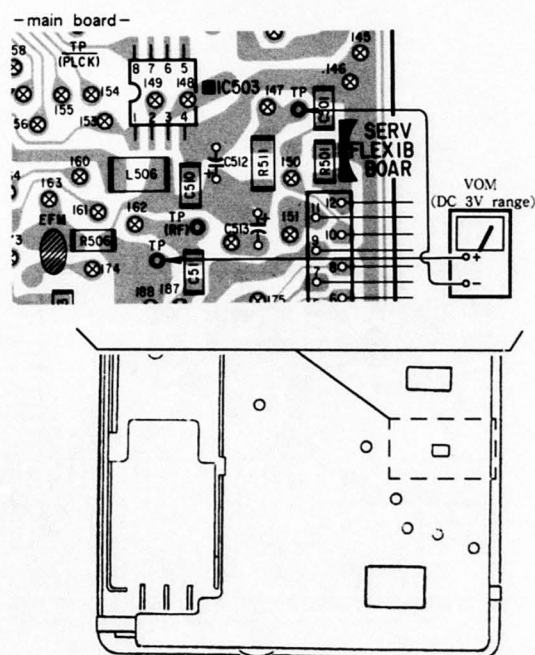

Fig.2 VOM Connection
3. Connect a VOM as shown in Fig. 2.